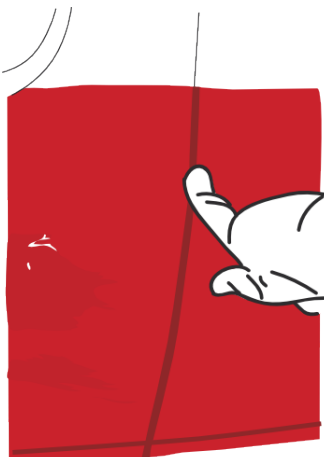

Figure 34
- › Shape the film with your gloved finger on the part's contours. (FIG. 34)